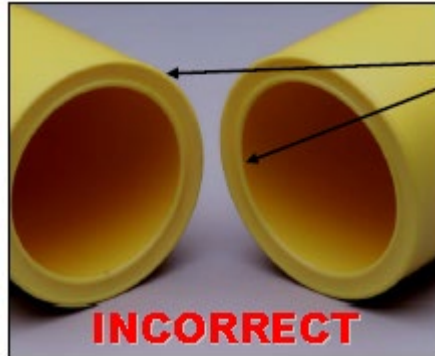

Figure 1. Unacceptable Concave Melt Appearance
- a. Quickly inspect the pipe ends. If a concave melt surface is observed (see Figure 1), unacceptable pressure during heating has occurred and the joint will not be acceptable.